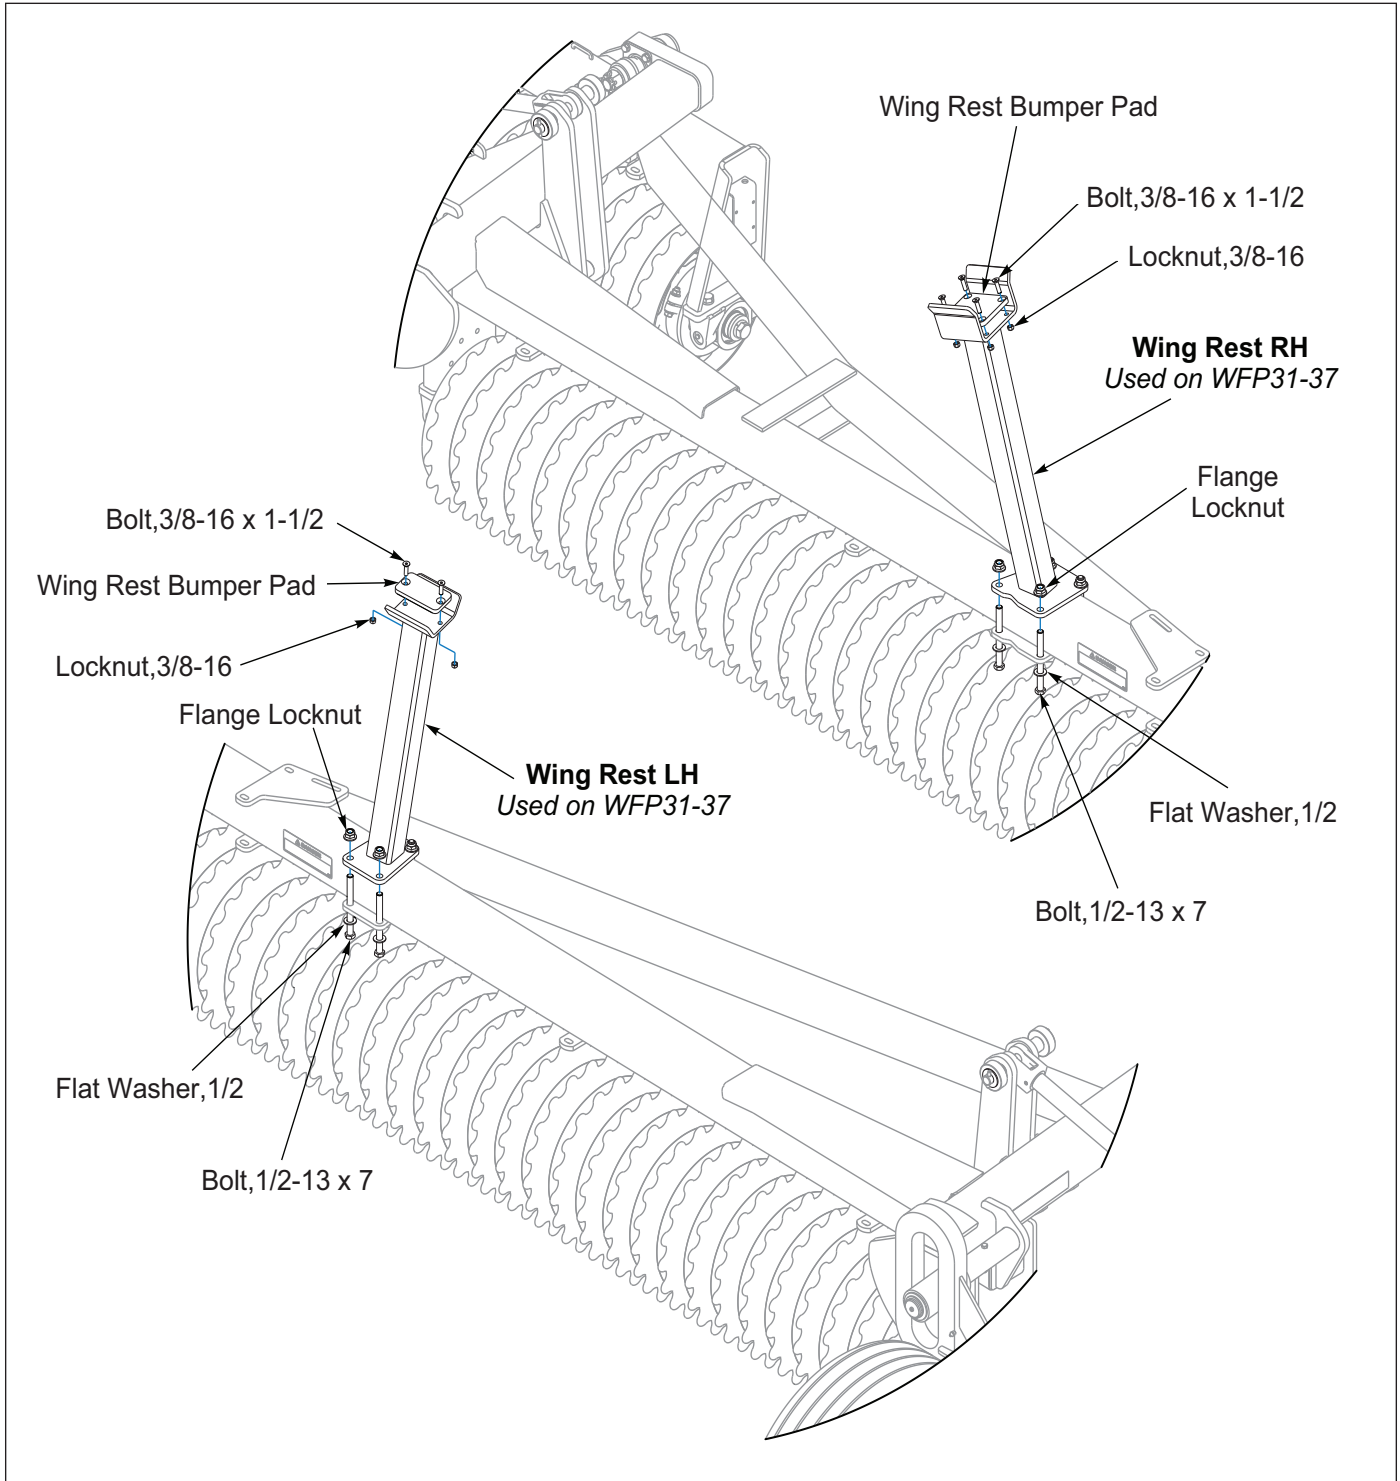

Figure 2-21: Wing Rest Installation, WFP31-37
1. Install the RH and LH Wing Rest to the RH and LH Wing Frame 4-Hole Plate located under the Wing Frame Tube. Secure with 5/8-11 x 7 Bolts, Flat Washers and Flange Locknuts. **See Figure 2-21.**